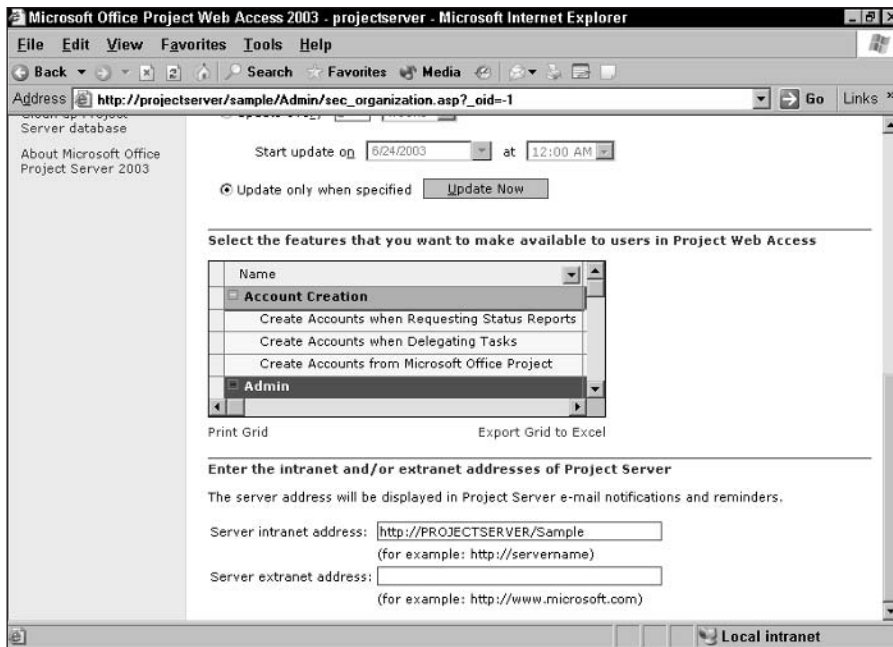

Figure 18-40: Provide intranet and, if appropriate, extranet addresses.
3. Scroll down, and provide the appropriate information in the Enter the intranet and/or extranet addresses of Project Server section (see Figure 18-40).